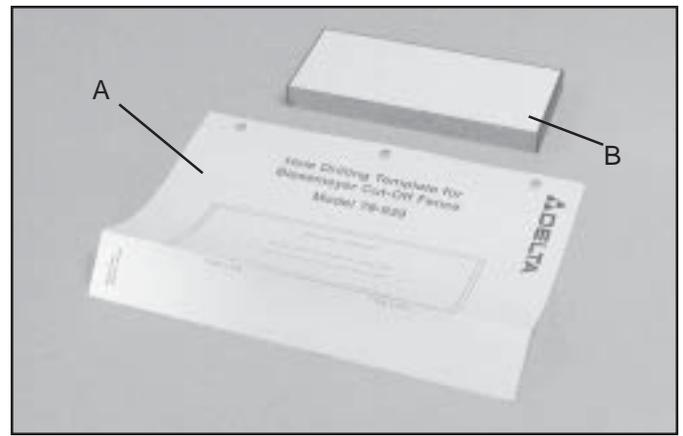

Fig. 2
1. Fold template (A) Fig. 2, on fold line and align the template with the bottom of fence board (B). Using a punch, mark the fence board (B) as indicated on the template (A) for Commercial or Home Shop installation. Then proceed to section **“FOR ALL FENCES” STEP 8.**